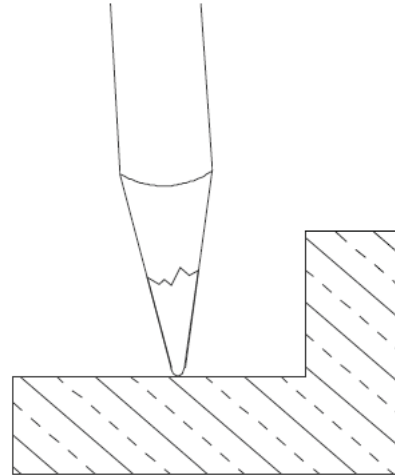

Figure 5
STEP 8. The frames are typically supplied with anchor holes predrilled by the factory. If the frame is supplied without anchor holes, select a section of the frame, and mark the locations for the anchor holes on the frame section (see Figure 5). Anchor hole spacing is 20" o.c. maximum with an anchor hole a maximum of 3" from each end of the frame section. Drill the anchor holes into the frame at the marked locations (see Figure 3). Frame anchor holes must be countersunk. Repeat this procedure for each section of the frame.